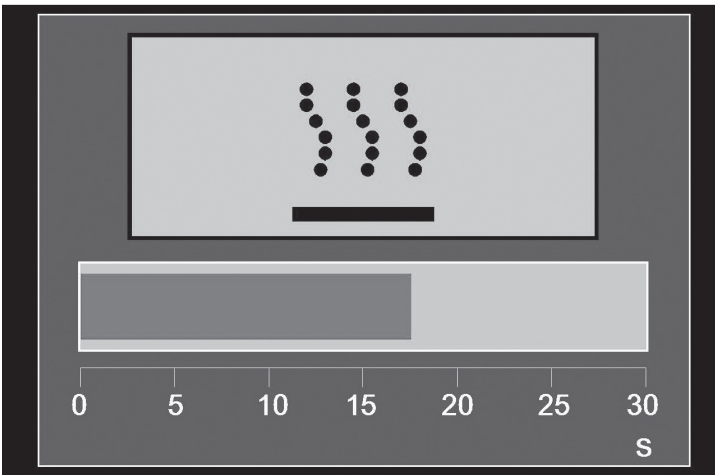

Figure 27
- Heating – Heating the combustion chamber. See Figure 27.